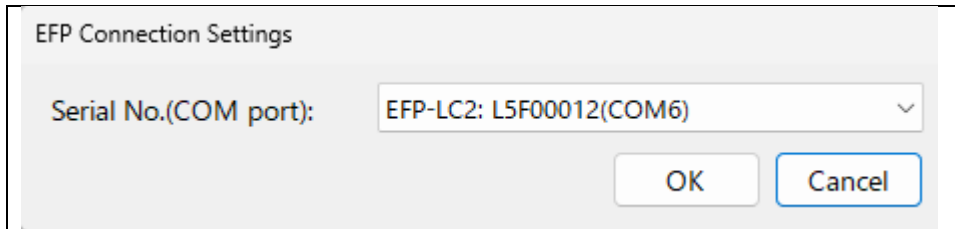

Figure 4.8 COM port selection screen
- I. Click the [Settings] button on the main screen to display the EFP connection settings screen (Reference Figure 4.8).